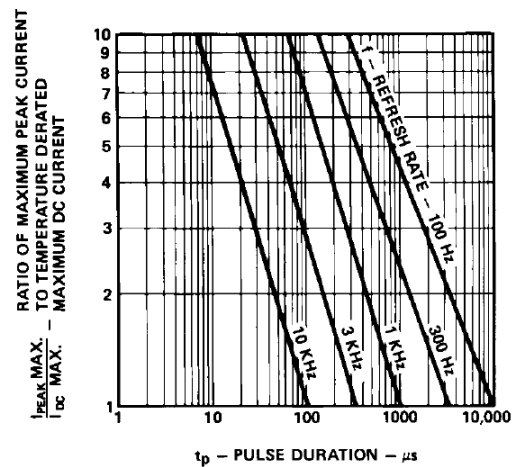

Figure 6. Maximum tolerable peak current vs. peak duration ( $I_{\text{PEAK MAX.}}$  determined from temperature derated  $I_{\text{DC MAX.}}$ ).
2. Refer to Figure 6 to establish pulsed operating conditions.